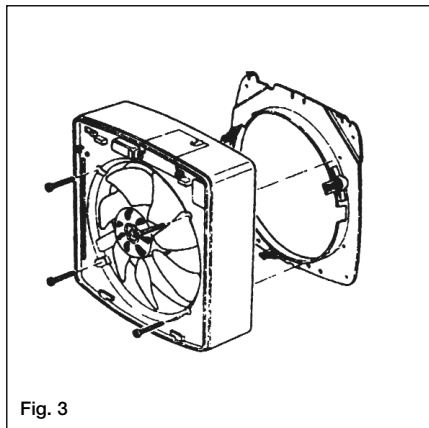

Fig. 3
- Separate the fan from the Inner clamp plate by opening the four screws. (Fig. 3)
- Re-mount the fan on the inner ground plate (Fig. 3). Do not overtighten the screws.